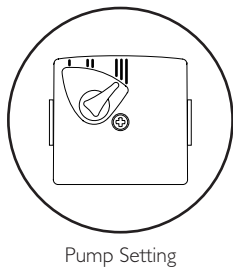

Fig. 72
**The pump speed must be set to 3 (Fig. 72).**